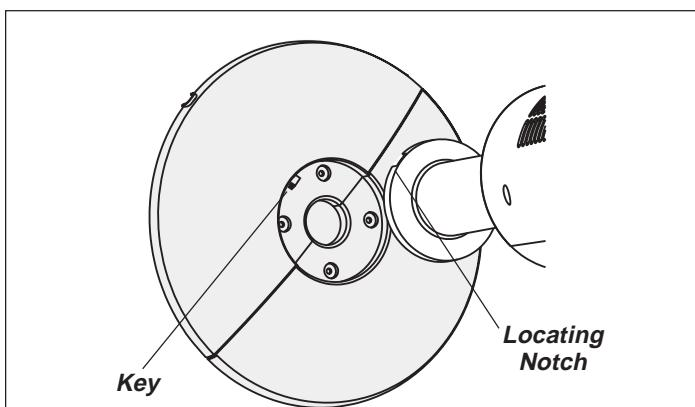
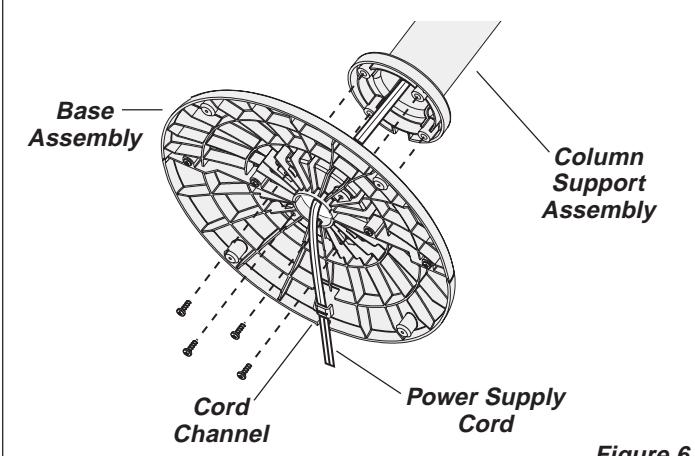

Figure 5
Figure 6
- Align the **Base Assembly** with the **Column Support Assembly**. Make certain to align the **Locating Notch** on the **Column Support Assembly** with the **Key** on the **Base Assembly** (Figure 5). Attach the **Base Assembly** to the **Column Support Assembly** with (4) M5 X 13mm Screws. Gently pull any excess slack of the **Power Supply Cord** and place it in the **Cord Channel** of the **Base Assembly**. (Figure 6)